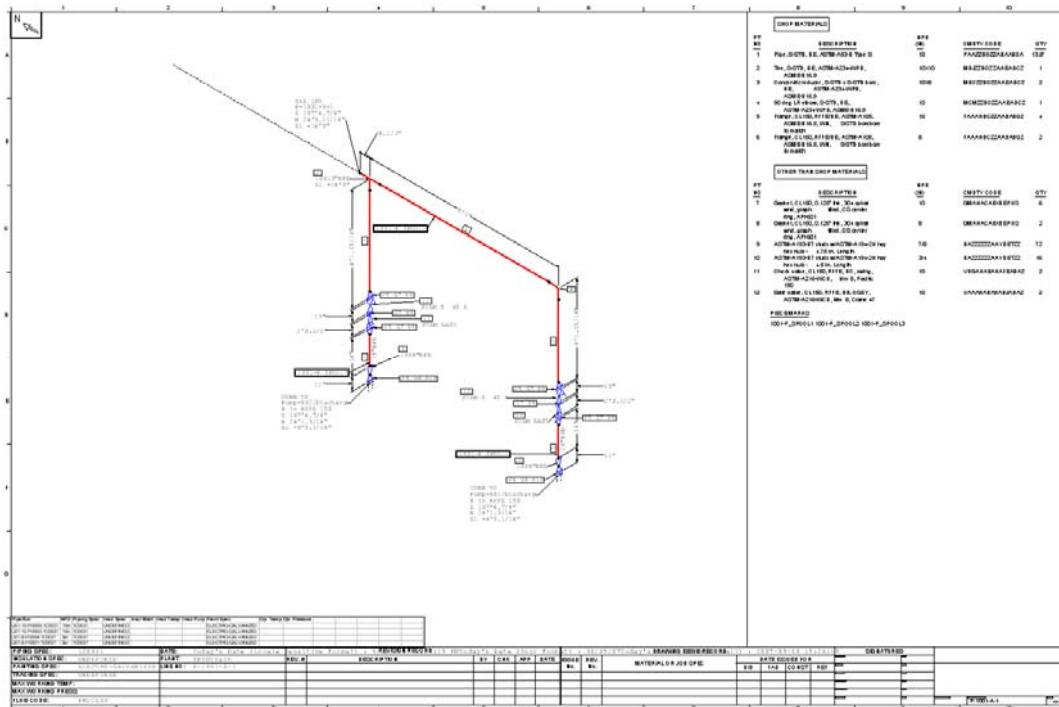

Figure 44: Isometric Drawing for P-1001-A-1
43. After the updation process is complete, double-click the isometric drawings created for the WBS items one by one. A pictorial representation of both isometrics will be displayed, as shown in Figures 44 and 45.